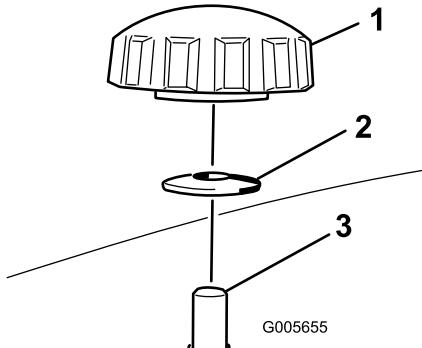
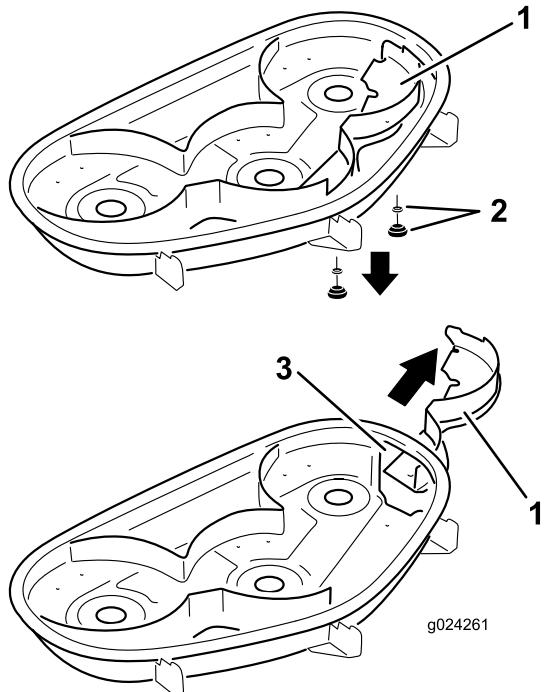

Figure 27
Figure 28
4. Remove the 2 knobs and curved washers that secure the right baffle to the mower (Figure 27).
5. Remove the right baffle and lower the grass deflector over the discharge opening as shown in Figure 27 and Figure 28.
- Slide the right baffle under the mower deck, and secure it using 2 knobs and the curved washers (cupped side facing the mower) as shown in Figure 27 and Figure 28.